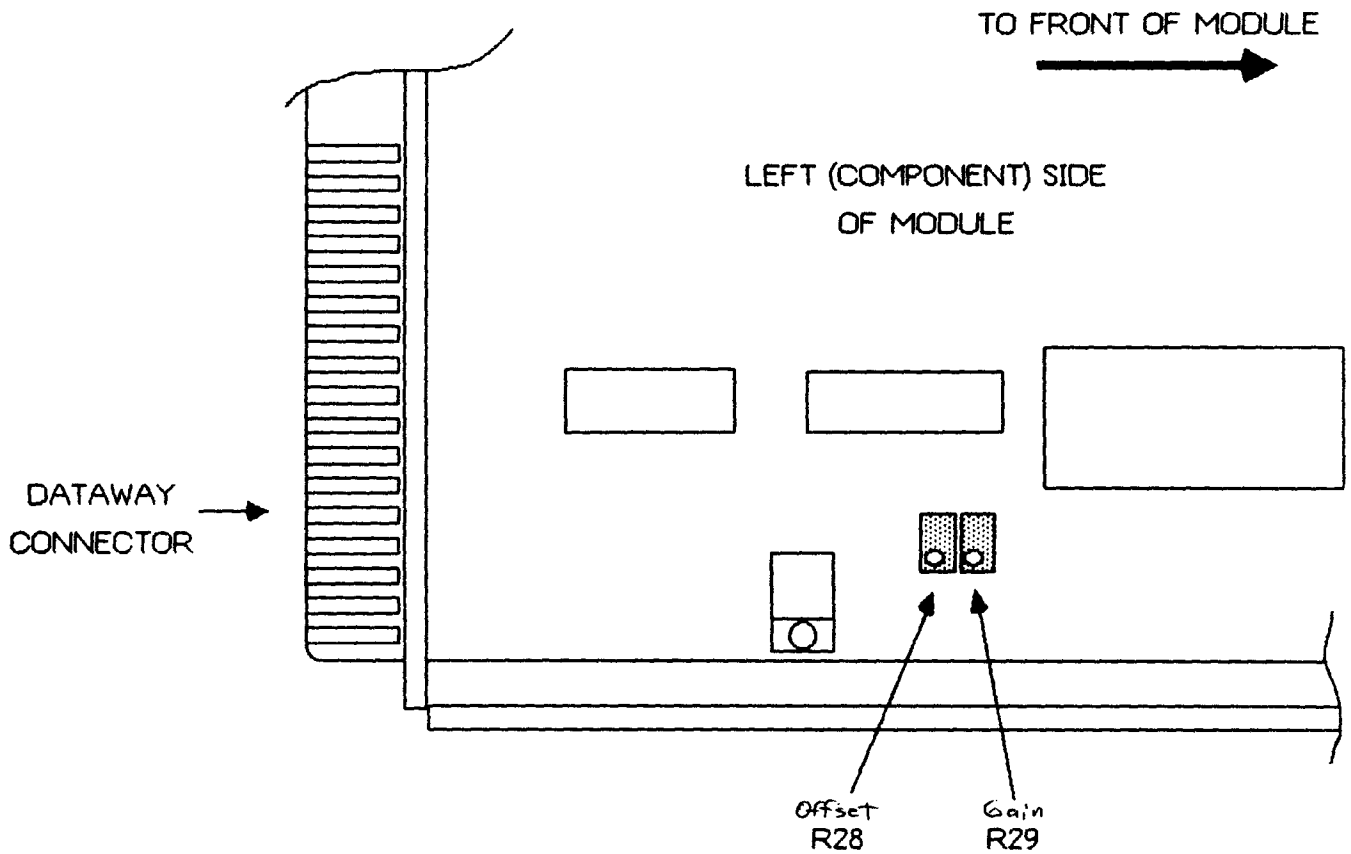

Figure 4-2. Output Buffer Calibrating Potentiometers
13. Apply positive full-scale voltage to input 0. Adjust the gain potentiometer R29 (shown in Figure 4-2) for full scale output.